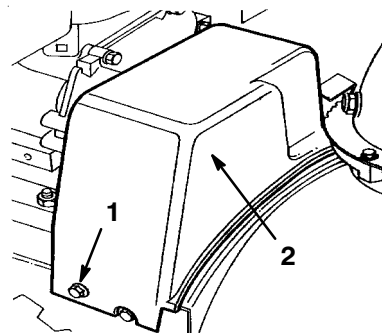

Figure 22
3. Remove the two screws that hold the belt cover in place and set the cover aside (Fig. 22).
- Remove the two screws that hold the belt cover in place and set the cover aside (Fig. 22).